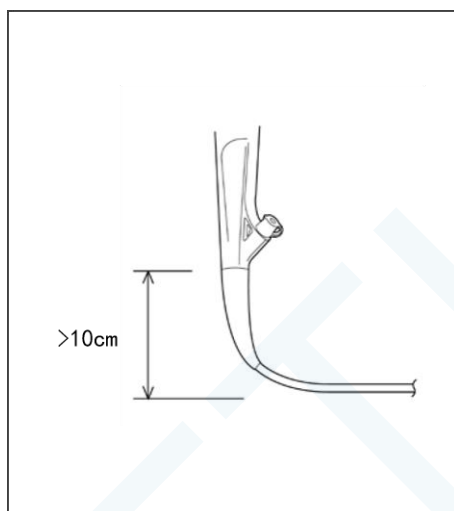

Figure 4.2
- As shown in Figure 4.2, do not bend the part within 10cm of the contact point between the insertion tube stiffness and the control section. Otherwise, the insertion section will be damaged.